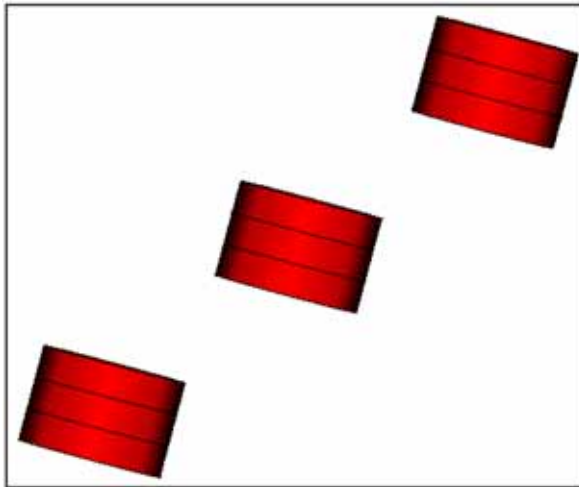

Figure 126: Zoomed in on the 3 gates for the tub
3. Zoom up on the gates to fill the screen similar to Figure 126.